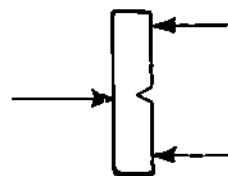

Figure 9-14. Charpy V-Notch
**Impact Test (Charpy, Izod)** This test is designed primarily to test the ability of metal or welds to resist sudden shock under various temperatures. The specimen is clamped in a machine and struck with a mechanical hammer. The pressure exerted at the breaking point is recorded in foot-pounds (Figure 9-14).